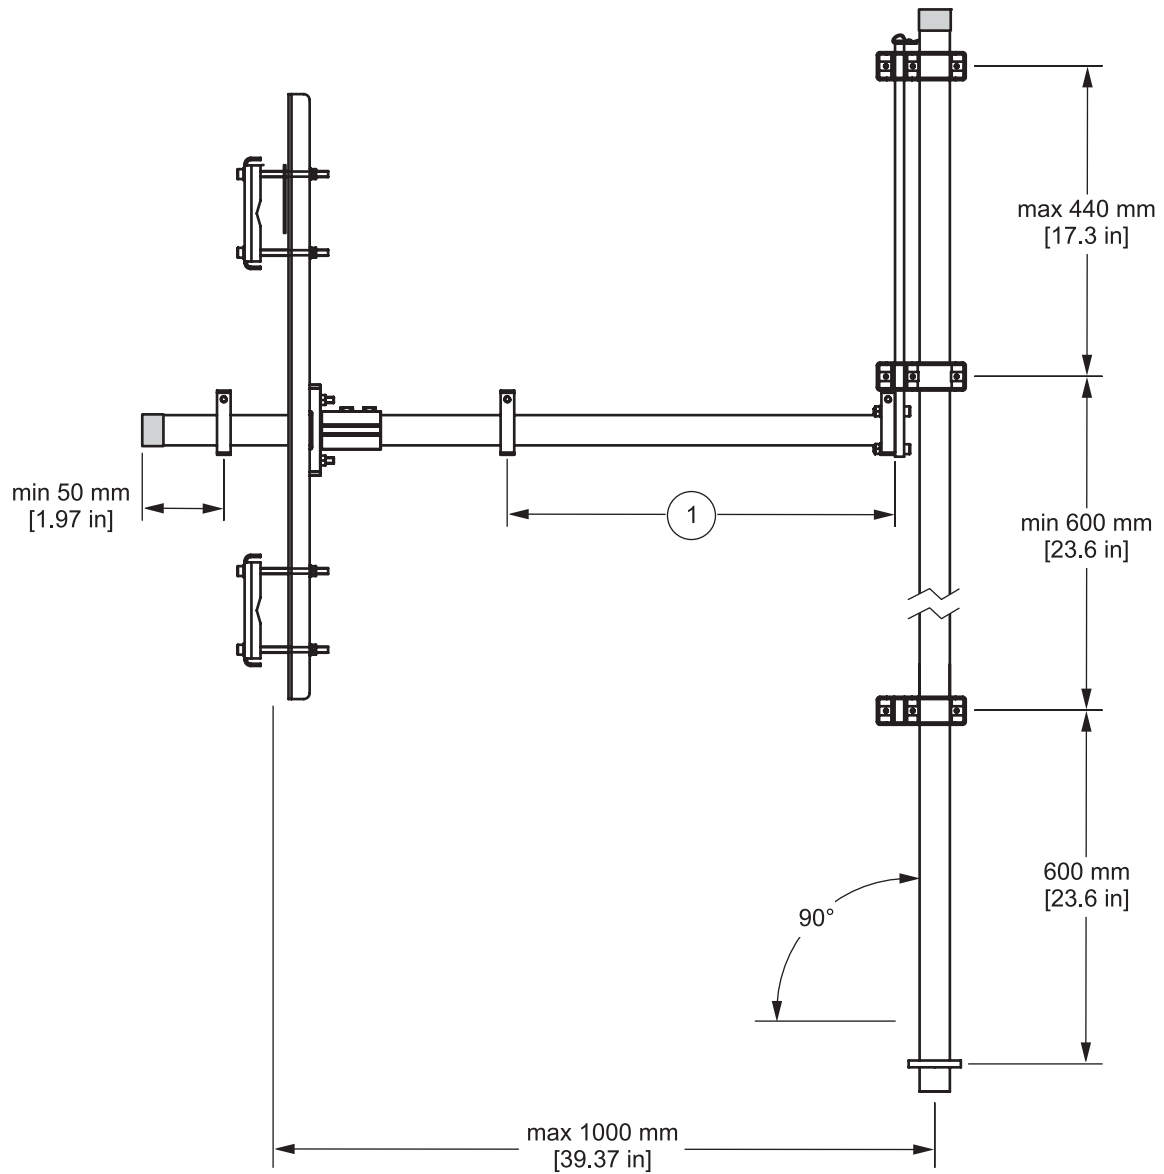

Figure 3 Installation dimensions
Figure 3 defines the position of the probe when the mounting pipe is in the service position (see Placing the probe in the service position on page 12).
- Set the supporting pipe axial offset using the distance from the clamp between the angles and the clamp in front of the base (see Figure 3 on page 3 and section Placing the probe in the service position on page 12).
- 9. Refer to the Filter Probe sc operating instructions to determine the installation position for the two top brackets and loosely fit the brackets to the mounting pipe. Refer to Figure 3 on page 3 for installation dimensions.
- 12. Adjust the tank bracket and tighten all screws. Refer to Figure 3 on page 3 for installation dimensions.